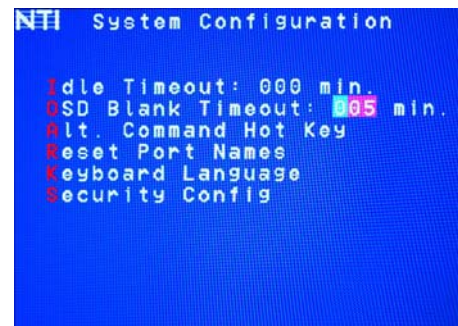

Figure 28- Change the value of OSD Blank Timeout
1. press <O> from the System Configuration menu to display the edit field around the value (see Figure 28)